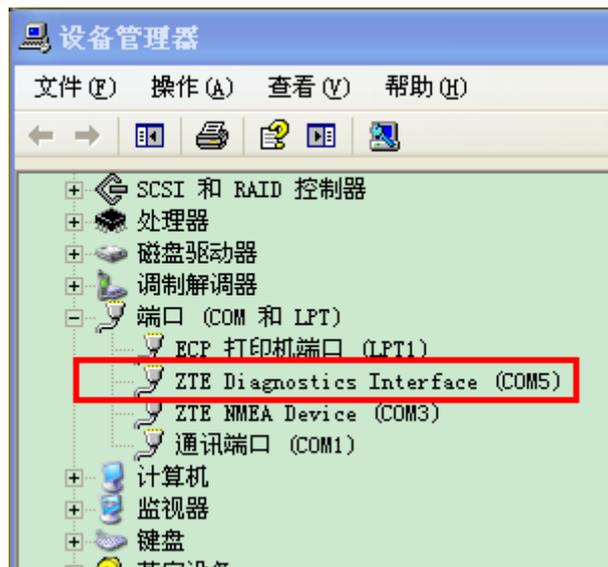

Figure 2 Port Number
2. Input DIAG port number, when wireless module connected to the computer, you can see the DIAG port number in "Device Manager", as shown in Figure 2(in this case, the DIAG port number is 5, name of the DIAG port include string "diag", it may different from the name shown in Figure 2)
- **Our computer's language is Chinese, so there were many Chinese characters in Figure 2, begging your pardon!